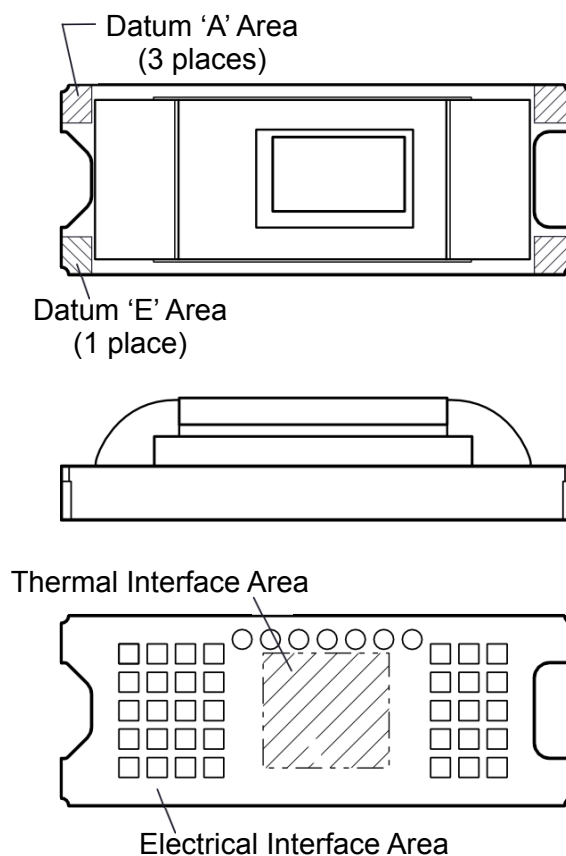

Figure 6-14. System Interface Loads
(1) Uniformly distributed within area shown in Figure 6-14.